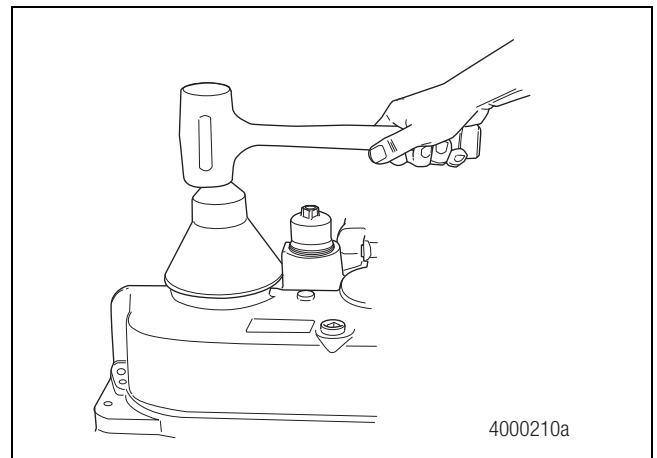

Figure 6
- Place the output shaft oil seal in position on the cover. Use the sleeve driver, part number 2728T1, to drive the seal until it is fully seated. Figure 6.